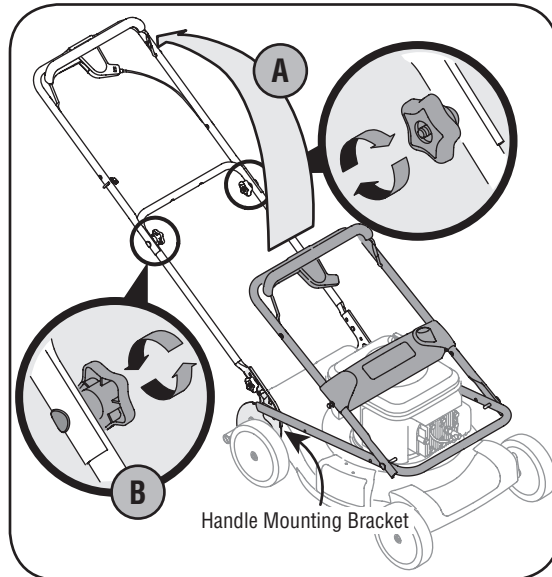

Figure 3-1: Unfold handle and tighten hardware.
- a. Pull up and back on upper handle as shown in Figure 3-1. Do not crimp cable while lifting the handle up. Remove star knobs from handle mounting brackets and secure the lower handle onto the handle brackets by placing the lower hole of the lower handle onto the pins of the handle brackets.
- b. Tighten star knobs securing upper handle to lower handle. See Figure 3-1. Make sure that each carriage bolt is seated properly in the handle.